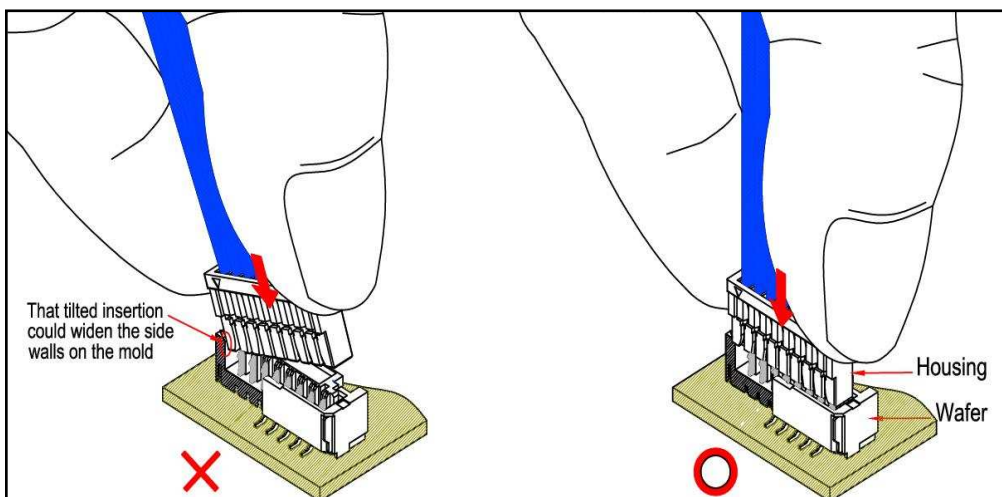

figure 3.3
3.3 This connector is designed to prevent pin damage due to tilted insertion. however, please keep in mind that tilted insertion could widen the side walls on the mold which could lead to lock force decrease, especially when the number of circuits is big. (see figure 3.3)